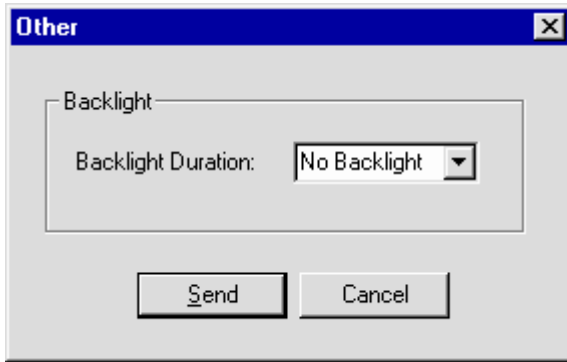

Figure 3-16: Instrument Parameters
2. In TRAKPRO Software, select **P**arameters, **I**nstrument Setup, **O**ther. The TRAKPRO software retrieves the current settings from the Q-TRAK Plus monitor and displays them in the dialog box displayed in Figure 3-16.